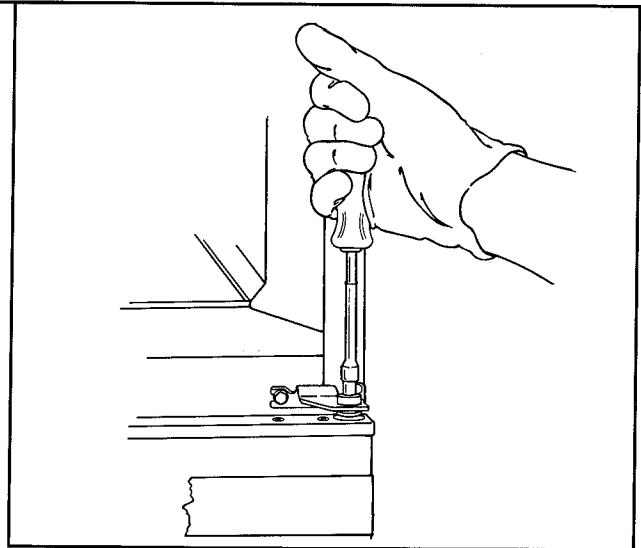

Figure 64
- b. Use a 5/16" nut driver to remove center hinge pin. See Figure 64.
- d. If plastic center hinge spacer rings from center hinge pin bracket and top of door were saved, then reuse in Step 19. See Figure 64.